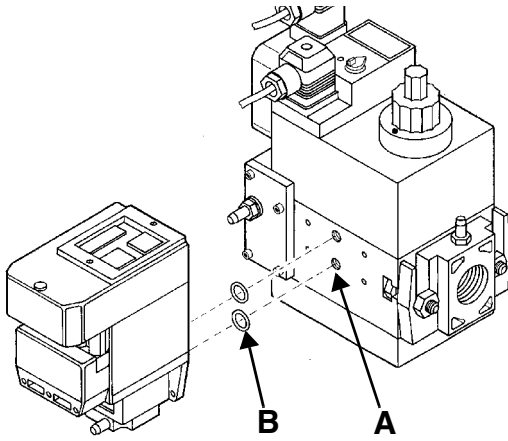
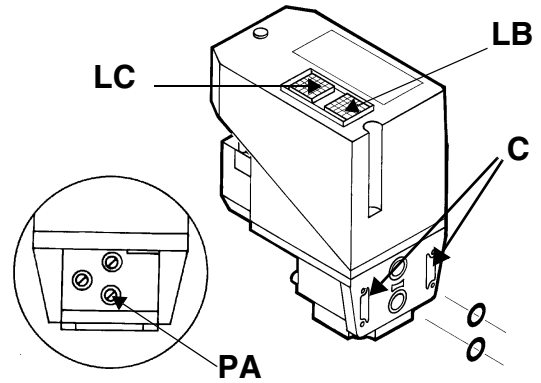

Fig. 13
Fig. 14
- 3 remove the MultiBloc's screw plugs (Fig. 13-A);
- 4 insert sealing rings (10,5 x 2,25) into VPS 504 (Fig. 14-B, Fig. 13-B)
- 5 Torque screws 3, 4, 5, 6 (M4 x16) Fig. 13-C
When wishing to monitor the test, install a pressure gauge ranged to that of the pressure supply point **PA** (Fig. 14). If the test cycle is satisfactory, after a few seconds the consent light **LC** (yellow) comes on. In the opposite case the lockout light **LB** (red) comes on. To restart it is necessary to reset the appliance by pressing the illuminated pushbutton **LB**.